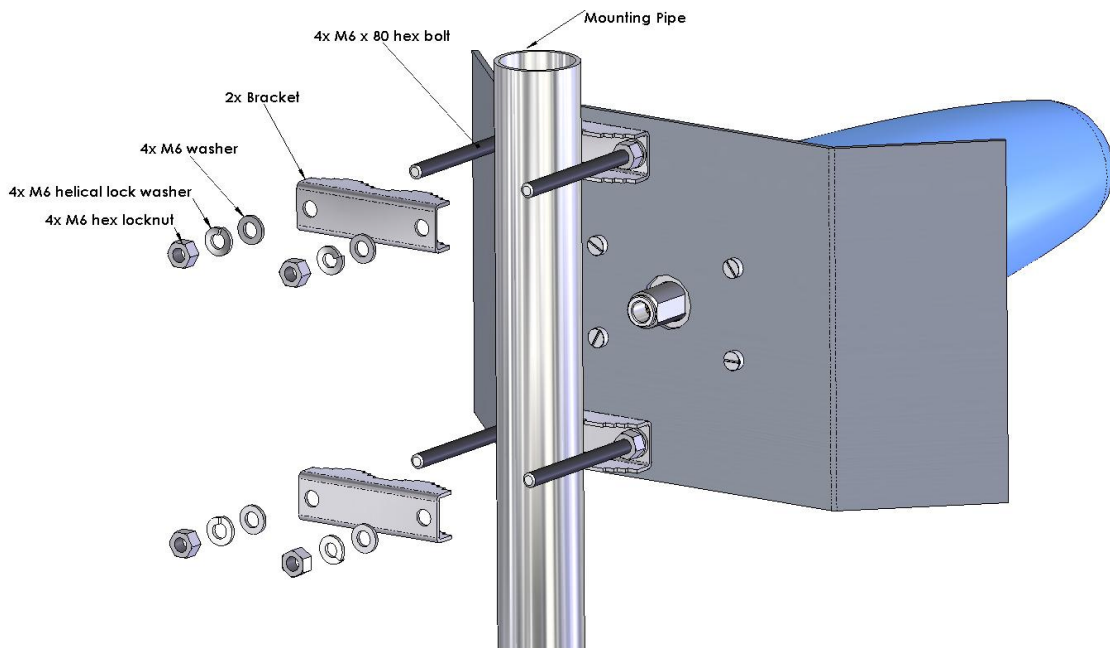

Figure 3
2. Properly orient the antenna and attach it to the mounting pipe (Figure 3). The antenna polarization is marked at the antenna label. For the horizontal polarization, use a horizontally oriented mounting pipe.